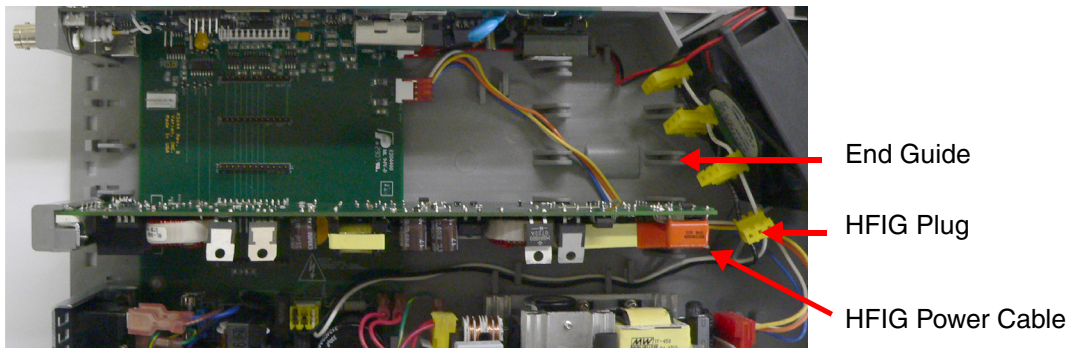

Figure 4-3 End Guide and HFIG Connector
- Place the end of the board into the end guide (Figure 4-3).
- d. Insert the yellow HFIG plug into the connector (HFIG boards only). See Figure 4-3. This connector is keyed.